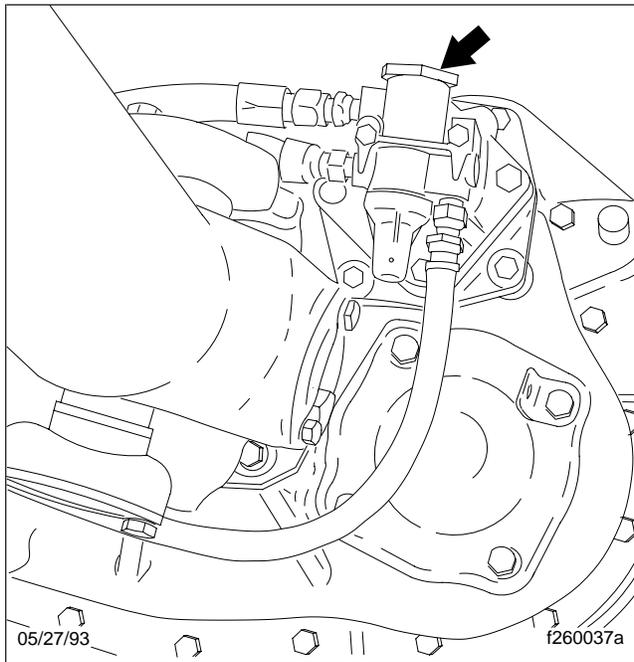

Fig. 3, Eaton/Fuller Transmission Air Filter/Regulator Location
2. Clean the outside of the air filter/regulator with cleaning solvent. Let it air dry. See Fig. 3.